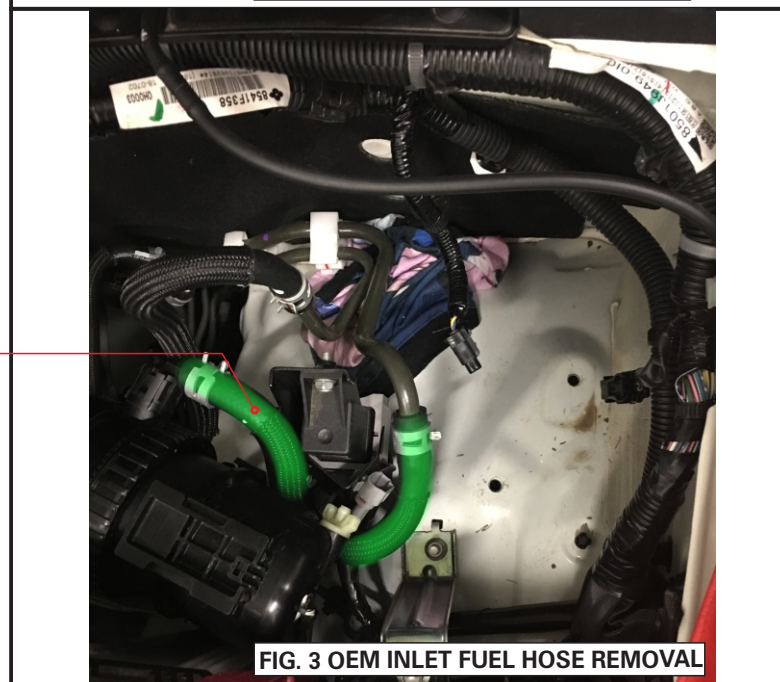

FIG. 3 OEM INLET FUEL HOSE REMOVAL
6. Remove the OEM fuel supply hose & hose clamps (highlighted green in Fig. 3). Have a rag ready as some fuel will spill from the hose and pipe.
3. Apply the supplied thread sealant to the thread of the blanking plugs and the quick connectors. Install them as per Fig. 3, ensuring they are tight.